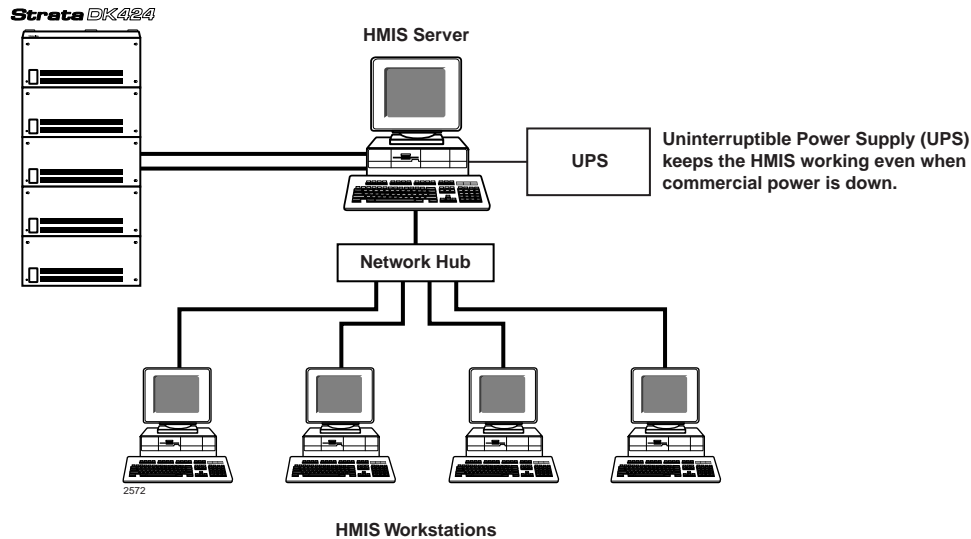

Figure 54 Server PC with Workstations
- ♦ An HMIS server with HMIS workstation PCs networked on a LAN to function as multiple front desk terminals (see Figure 54 below and “Multiple Front Desk PC Terminals” in the HMIS General Description). The configuration includes a five-port network hub which can support up to four workstations. Up to nine workstations can be connected using either a larger or multiple hubs.